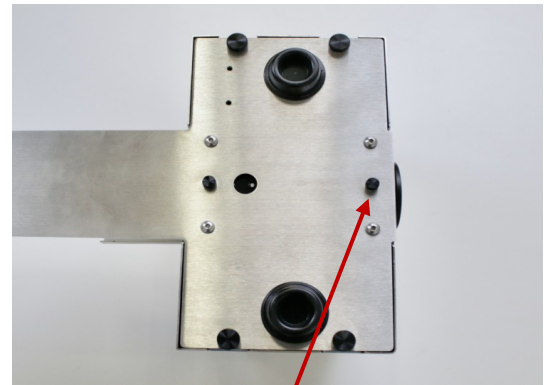

Figure 3.1.4 Bushing (inlet) set screw
- Loosen the inlet bushing set screw and remove bushing from cutter. **Figure 3.1.4**